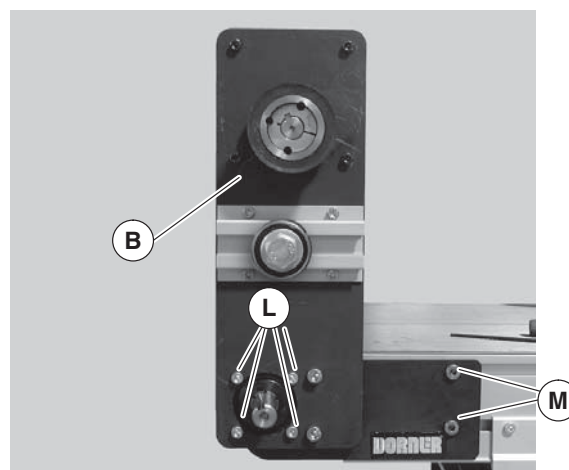

Figure 4
3. Attach top mount drive assembly (Figure 4, item B) with two (2) M8 screws (M) and four (4) M6 screws (L). Tighten M6 screws (L) to 146 in-lbs (16.5 N-m) and M8 screws (M) to 288 in-lbs (32.5 N-m).